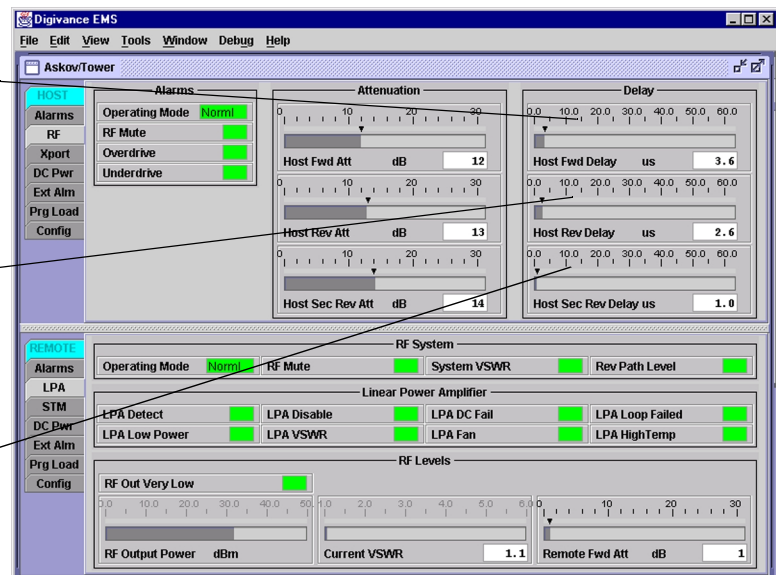
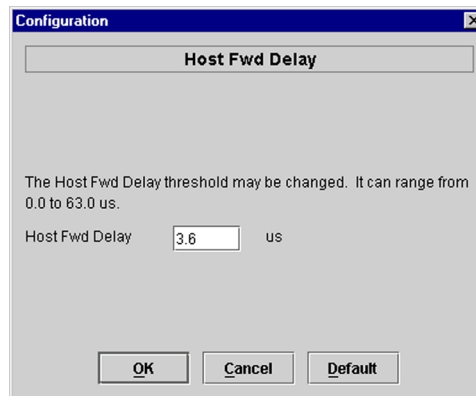

Figure 4-14. HOST RF Display
Figure 4-15. Host Fwd Delay Pop-Up Screen
1. Click on the HOST **RF** tab. The HOST **RF** display will open within the EMS main window as shown in Figure 4-14.
2. Right-click on the **Host Fwd Delay** section of the display (see Figure 4-14). The **Host Fwd Delay** pop-up screen will open as shown in Figure 4-15.
5. Repeat the process for reverse delay and diversity reverse delay by right-clicking on the appropriate delay section (see Figure 4-14) and then entering the required delay value in the pop-up screen.